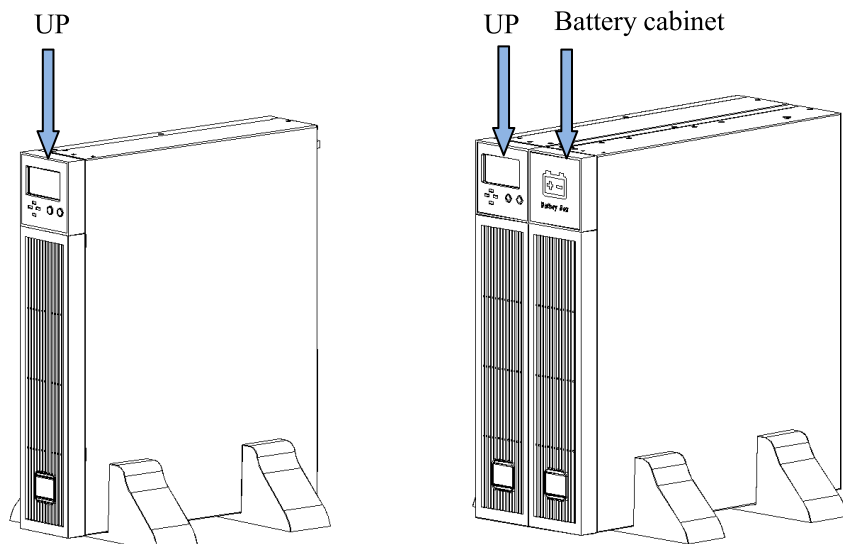

Figure 5-6 Tower installation
- ④ Install the left and right plastic panels back to the UPS. At this point, the UPS operation display panel and LOGO have been rotated 90 degrees clockwise to provide users with a vertical view.
- 4) Place the UPS (and battery cabinet) on the support base. Each UPS requires two sets of support bases, as shown in Figure 5-6.